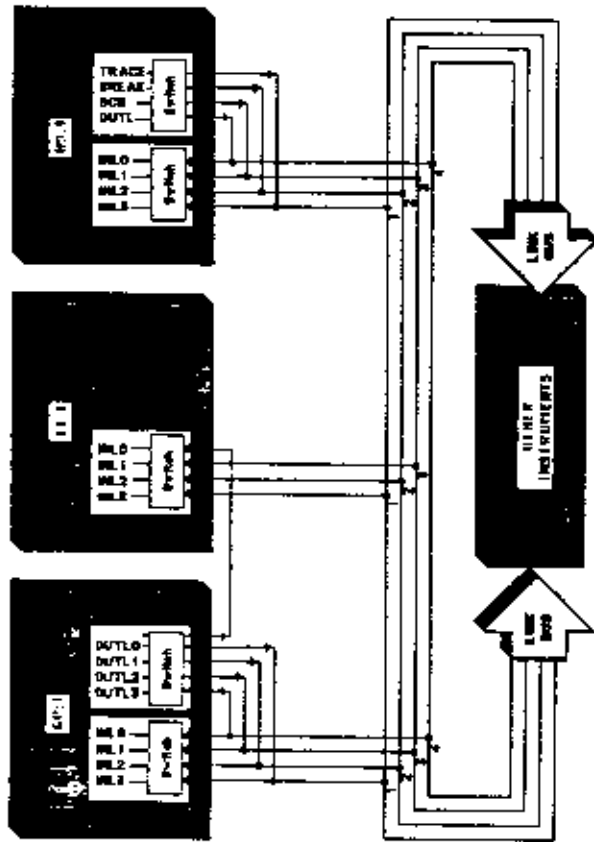

Figure 3-2. Link Bus
3.2.2.1 Linkbus. High-speed communications among all modules is performed over the Linkbus. When an occurrence of a programmed event takes place within a given instrument, control information is then passed to the Linkbus by that instrument. The information placed on the Linkbus is then available to other instrument(s). See Figure 3-2. An example of this is as follows. The General Purpose Logic Analyzer has been programmed to compare ten blocks of data. Once the compare has been performed, control information is then sent to the Linkbus. The information on the Linkbus is then acted on by the Pattern Generator, which then supplies programmed stimulus to the SUT.